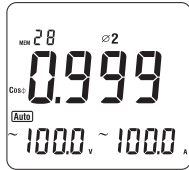

Figure 21
- Then press **SELECT** again to choose the second phase  $\varnothing 2$ , see figure 21.